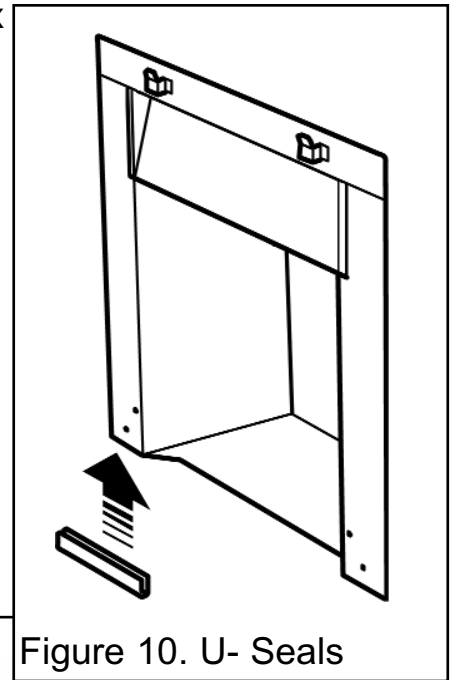

Figure 10. U- Seals
2. Fit the two U- seals 'A' to the bottom edges of the hotbox side flanges (See figure 10).